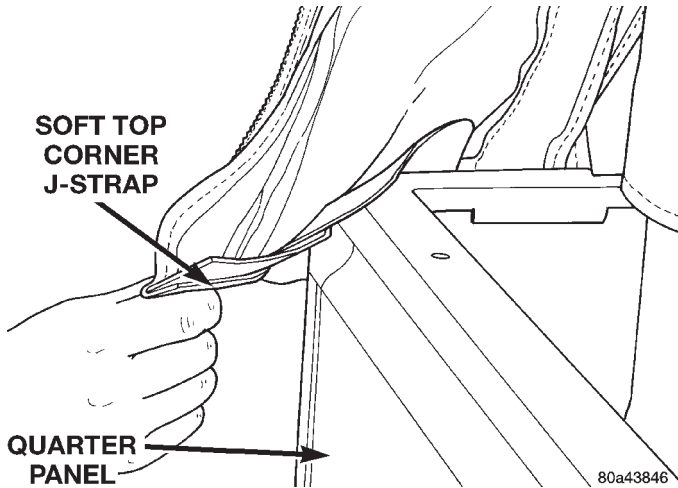

Fig. 46 Soft Top J-Straps
- (1) Disengage the retainers attaching the rear window to the body.
- (2) Remove rear window, unzipping from right to left.
- (3) Disengage J-straps at soft top rear corners (Fig. 46).
- (4) Unzip quarter windows, disengage J-strap and remove quarter windows.
- (5) Starting at the rear of the upper door opening frame and working forward, disengage driprail retainers attaching the soft top to the door opening frame.
- (6) Unlatch top at windshield frame.
- (7) Lower the top to the rearward position.